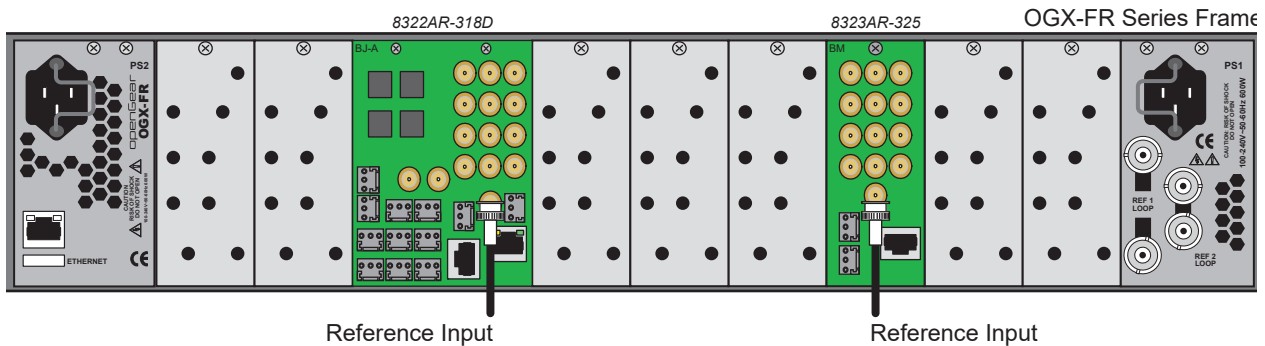

Figure 9 Rear Module Cabling — Reference Source (REF IN)
- Connect the reference signal to the **REF IN** HD-BNC on the TES-8943 rear module. (**Figure 9**)